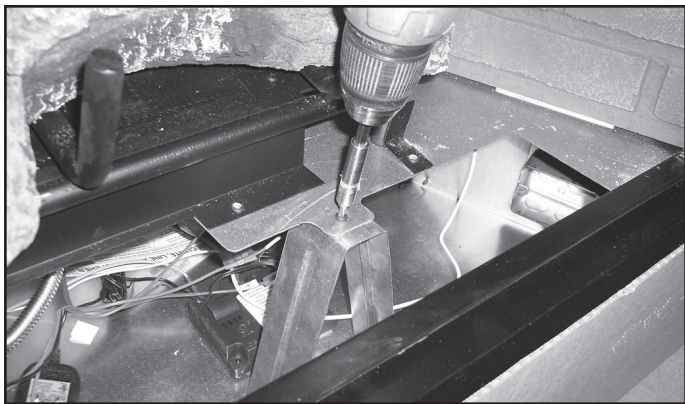

Figure 14.1 Remove Screw from Right Shipping Support
- Remove the screw holding the firebox to the shipping support. See Figure 14.1.